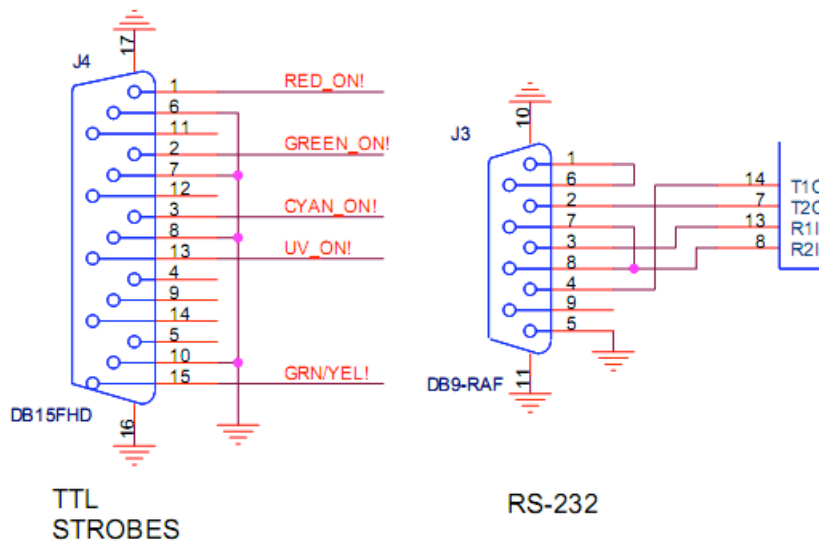

Figure 1
**TTL:** See figure 1 for TTL (5V/3.3V) enable color channel pin mapping. The front panel switch should be set to 'EXT' before using these TTL enables. These signals are active low (i.e., a low enables or turns on a channel, a high disables or turns off a channel) with internal pull-ups compatible with an open-collector or bipolar drive. Channel intensity is controlled by front panel potentiometers. If external intensity is also desired, then the RS-232 connector must be used.
**RS-232:** See figure 1 for RS-232 Pinout. Pin 2 is host RX, pin 3 host TX. Default port parameters are 9600,8,N,1. The front panel switch should be set to 'EXT' before using this RS-232 Port. This port can control both enables and intensity of each channel. Using a USB->RS-232 Adapter, (optional) USB controlled enables and intensities are also provided. See section 1.X.2 for the RS-232 command structure and bit definitions.